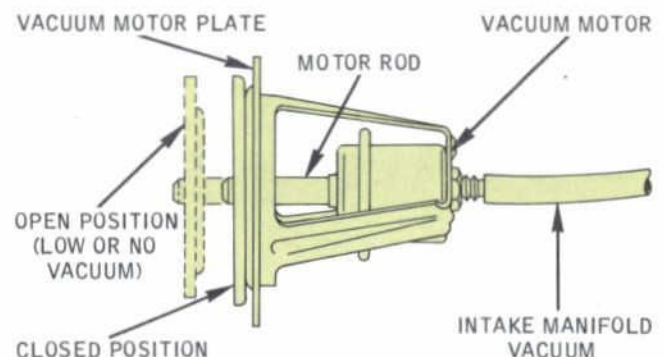

Fig. 21 — 390 GT V-8 Air Valve and Vacuum Motor Assembly
The 390 GT V-8 engine is equipped with a similar duct and valve assembly that operates in the same manner as on other engines, except the vacuum override is not used. Instead of the vacuum override, a vacuum motor is installed on the perimeter of the air cleaner. When manifold vacuum is low, during heavy engine loading or high-speed operation, a spring in the vacuum motor opens the motor valve plate into the air cleaner (Fig. 21). This provides the optimum air supply for greater volumetric efficiency during full-power operation.
1. Start the engine, and observe the vacuum motor plate. It should be fully closed (Fig. 21).
2. Disconnect the vacuum hose at the vacuum motor. The plate should be in the *full-open position* (Fig. 21).